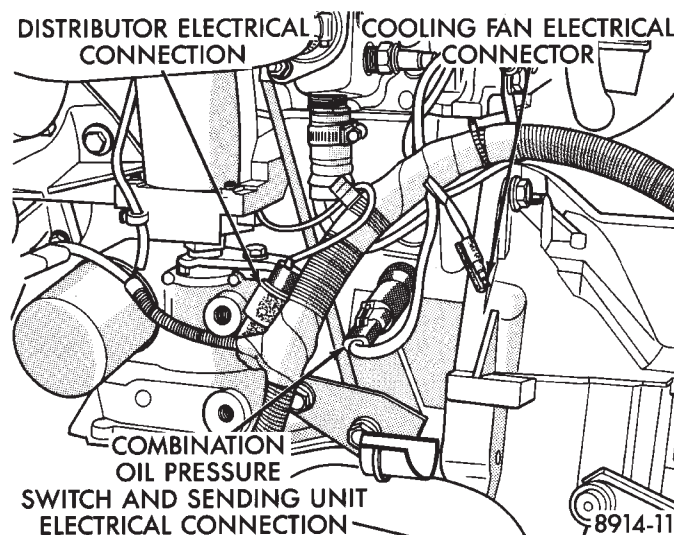

Fig. 15 Distributor, Oil Pressure Switch, and Radiator Fan Electrical Connections
(22) Verify electrical connector is attached to distributor (Fig. 15).
(23) Verify radiator fan electrical connector is attached to the harness (Fig. 15).
(24) Verify oil pressure switch electrical connector is attached to the switch (Fig. 15).